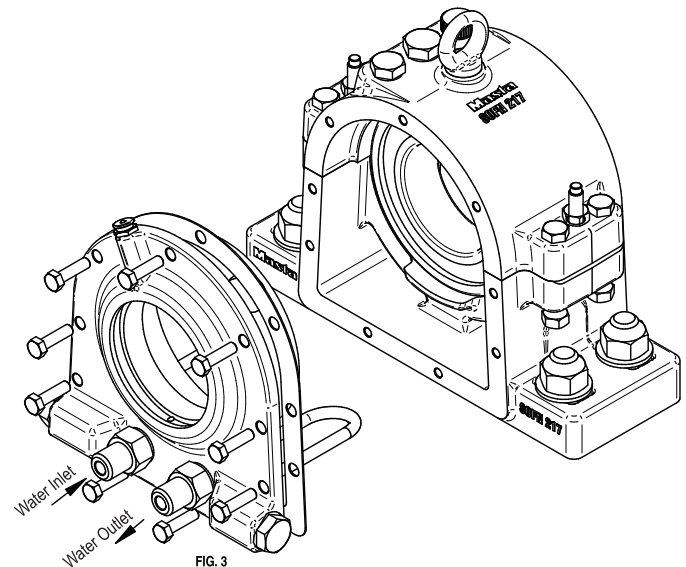

FIG. 3
5. As shown in FIG 3 the connections for cooling water inlet and outlet is provided outside the cover where an user is required to fit the cooling water supply piping at own end.